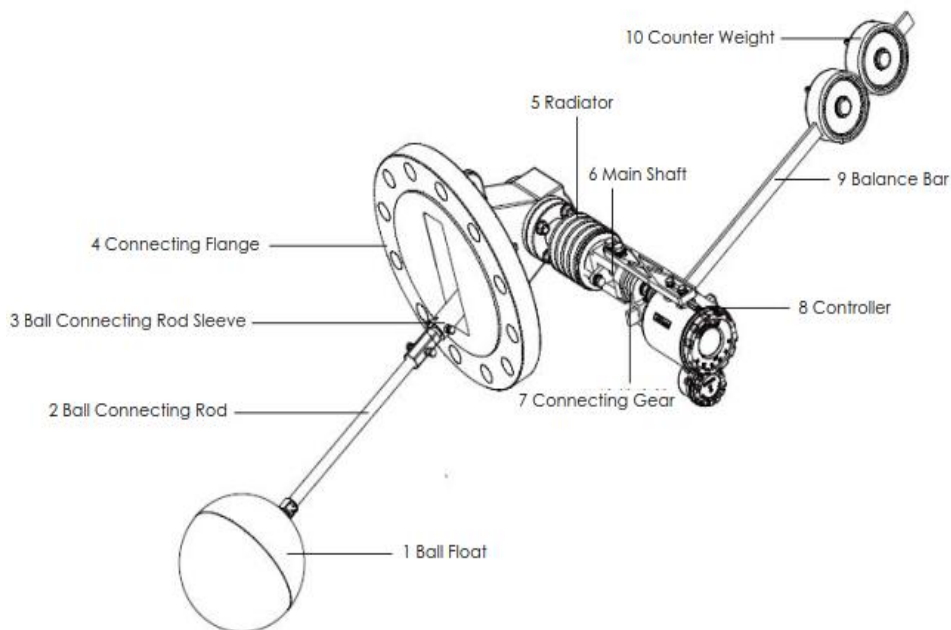

Figure 1 Small Rotation Angle Ball Float Level Transmitter
2.1 Main Structure of Product-Figure 1 Small Rotation Angle Ball Float Level Transmitter;